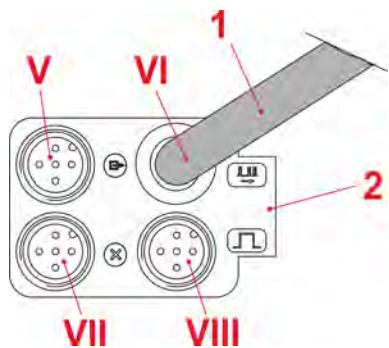

Fig. 23: Dongle-Box
1. Fit the Dongle Box eg. MicroFlow-Box (Fig. 23) to the rail of the EMP pump provided for this purpose (Fig. 24, pos. A).
2. Slide the Dongle Box eg. MicroFlow-Box (Fig. 23) onto the rail on the left side of the EMP pump (Fig. 24, pos. A), until it snaps into place.
3. Connect the connection cable (Fig. 23, pos. 1 and on page 49, pos. 2) to the input for pulse / standard signal (Fig. 24, pos. 1).
If, before upgrading with a Dongle Box eg. MicroFlow-Box a plug is connected to the input for pulse / standard signal (Fig. 24), then this plug can be connected after the upgrade to plug VIII (Fig. 23) of the Dongle Box eg. MicroFlow-Box.